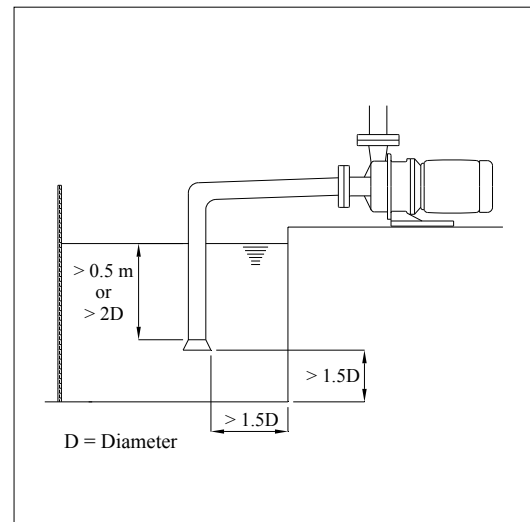

Fig. 4.4
Suction piping	<ol style="list-style-type: none"> (1) There should be at least a 1.5D distance between the suction pipe inlet and the closest tank wall to prevent circulation (see Fig. 4.4). (2) The submerge depth of the suction pipe inlet should be at least 0.5m or at least 2D below the liquid surface (see Fig. 4.4). (3) There should be a distance of at least 1.5D between the bottom of the tank and the suction pipe inlet (see Fig. 4.4). (4) If there are two or more inlet piping in the same tank, they should be placed at least 3D apart to prevent mutually disrupting each other's flow.